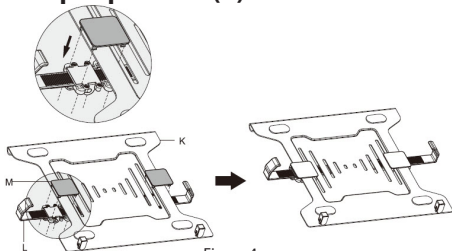

Figure 4
1. Unfold the **Laptop Holder Tabs**, located at the bottom-front of the **Laptop Tray (C)**. (Figure 4)
2. Position the **Laptop Arms (L)** under the right and left-hand sides of the **Laptop Tray (K)**.
3. Align the **Small Tabs**, located on one of the **Laptop Arm Clips (M)**, with the **Rectangular Slots**, located on the **Laptop Arm (L)** and the **Laptop Tray (K)**, and gently push the **Small Tabs** into the **Rectangular Slots**.
4. Repeat step 4 to install the second **Laptop Arm Clip (M)**, completing the **Laptop Tray Assembly**.
5. Ensure the **Laptop Arms (L)** will not impede access to any of the **Laptop's Side Ports**. To verify clear access, temporarily place the **Laptop** atop the **Laptop Tray Assembly** and make adjustments to the position of the **Laptop Arms (L)** as necessary. Remove the **Laptop** before proceeding to the next step.